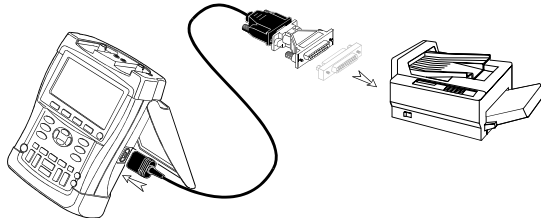

Figure 49. Connecting a Serial Printer
- The Optically Isolated RS-232 Adapter/Cable (PM9080, optional) to connect a serial printer to the OPTICAL PORT of the test tool. (See Figure 49.)